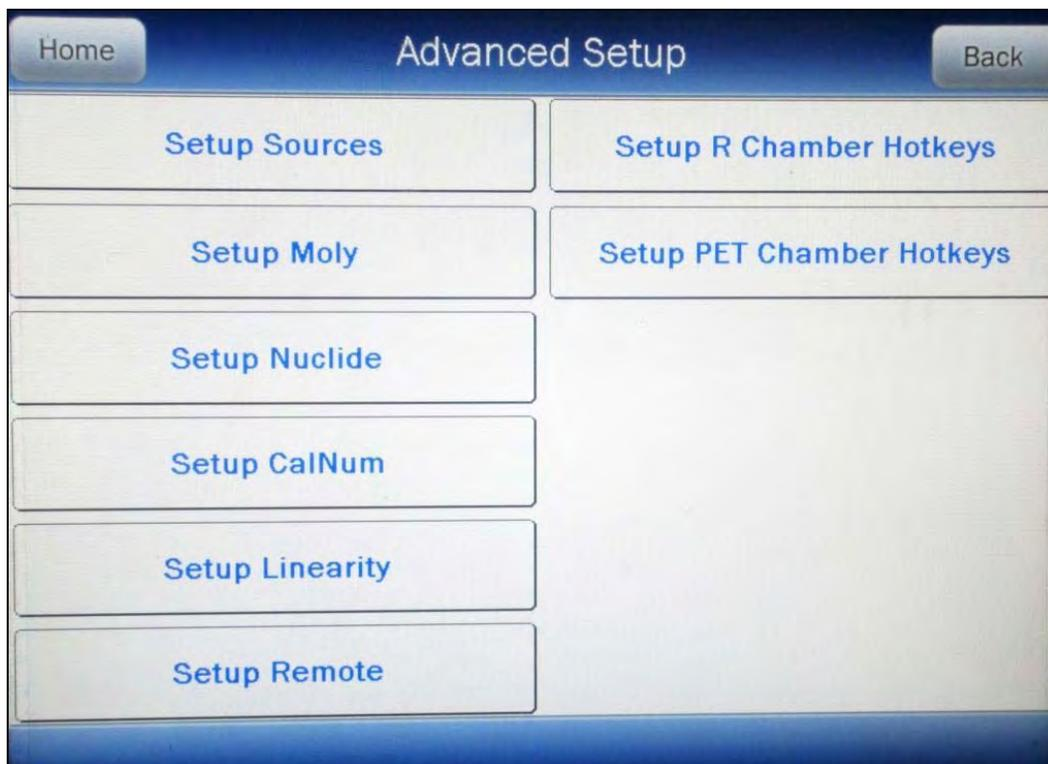

Figure 6-10 Advanced Chamber Setup Screen
Input the password (last 3 digits of serial number) by touching the appropriate numbers on the keypad. Touch the **ACCEPT** button to accept the password. Figure 6-10 Advanced Chamber Setup Screen will appear.
5. Touch the **ACCEPT** button in the lower part of the Setup Sources screen. Figure 6-10 Advanced Chamber Setup Screen will appear.